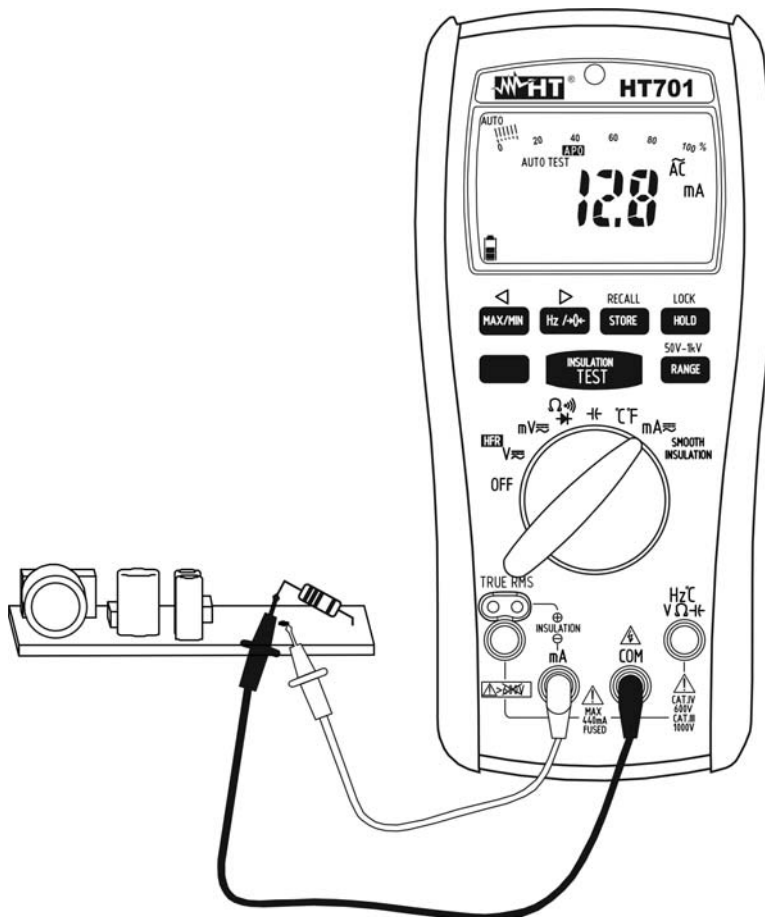

Fig. 5: Use of the instrument for AC current measurement
6. Connect the red lead and the black lead in series to the circuit whose current you want to measure (see Fig. 5)